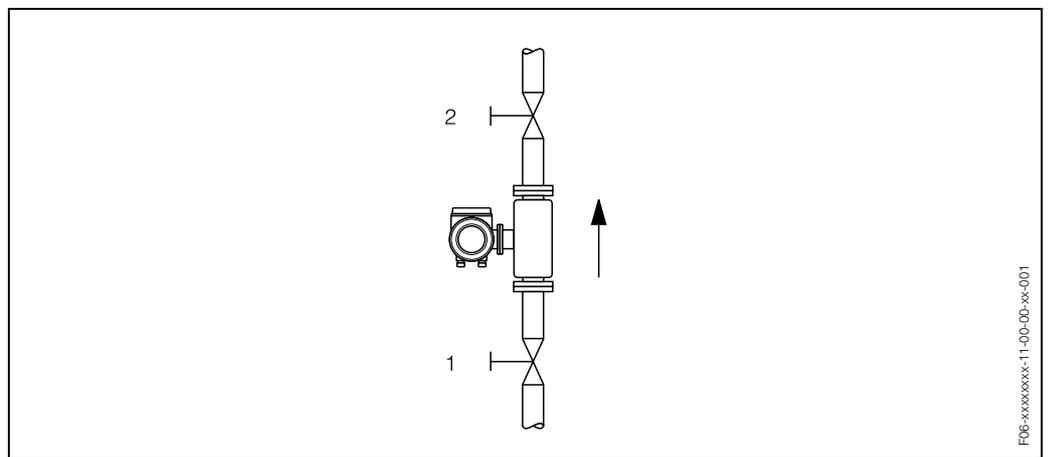

Fig. 24: Zero point adjustment and shut-off valves
- A Zero point adjustment is performed with the measuring tubes completely filled and at zero flow ( $v = 0$  m/s). This can be achieved, for example, with shut-off valves upstream and/or downstream of the sensor or by using existing valves and gates (Fig. 24):